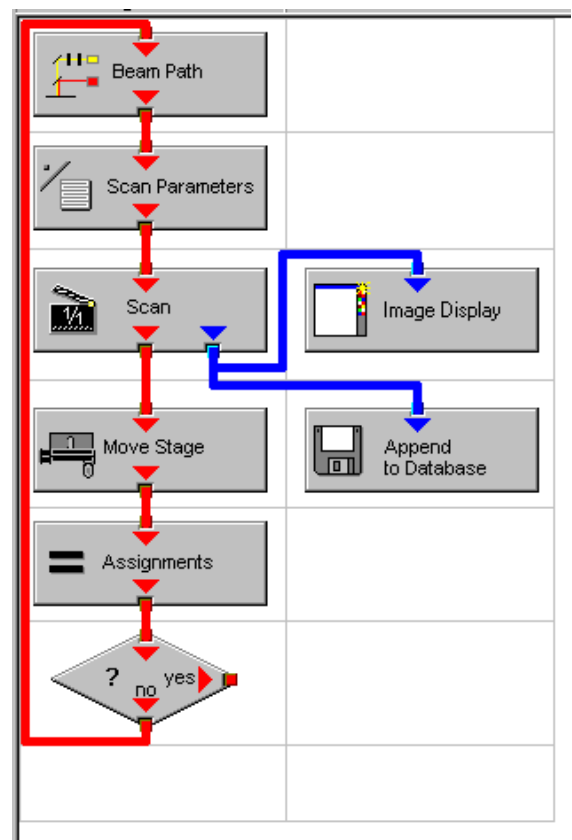

Fig. 4-192 Arrangement of action blocks
- Arrange and connect the action blocks (Fig. 4-192).